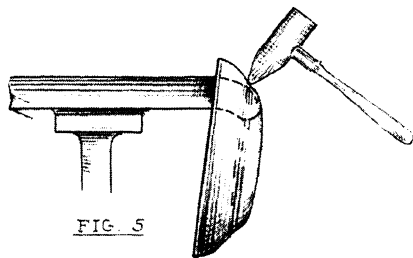

FIG. 5
- b. Crimping the disk, as shown in Fig. 5. This may be done on a block of wood.